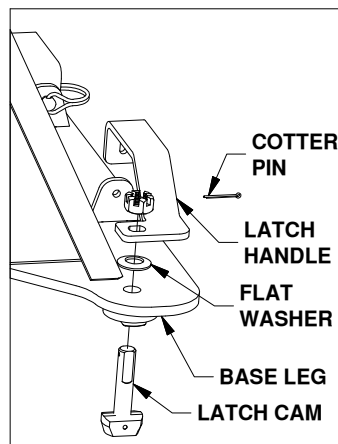

**Figure C2:**
- Prepare to adjust latch tension.** Once the base is in place, remove the cotter pins from each of the four castle nuts. Engage the cams with each attachment point by turning the latch handles back to their locked position, see Figure C2. If a handle will not turn easily, loosen the castle nut until the cam will freely turn and engage the attachment point.